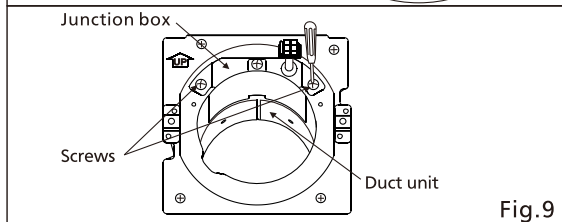

Fig.9
9. Reinstall junction box back into duct unit by using screws . (Fig.9)